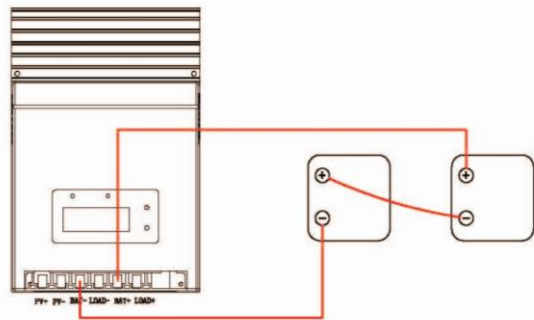

Figure 3-5. Batteries in series connection
**1) Multiple batteries in series connection (Refer to Fig.3-5):** All batteries must be equal in voltage and amp hour capacity. The sum of their voltage must be equal to the nominal DC Voltage of the unit.